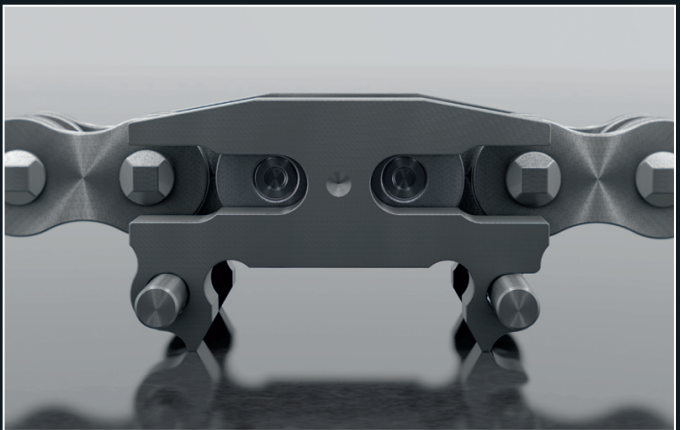

Fig.4
- Stick the outer plates of the chain lock to the bolts using a little grease and surround the chain lock from below using the enclosed positioning unit, such that it is possible to see through the recesses of the positioning unit whether the holes in the outer plate are flush with the ends of the bolts. The positioning unit remains stuck to the chain lock due to the integrated magnets (Fig.4).